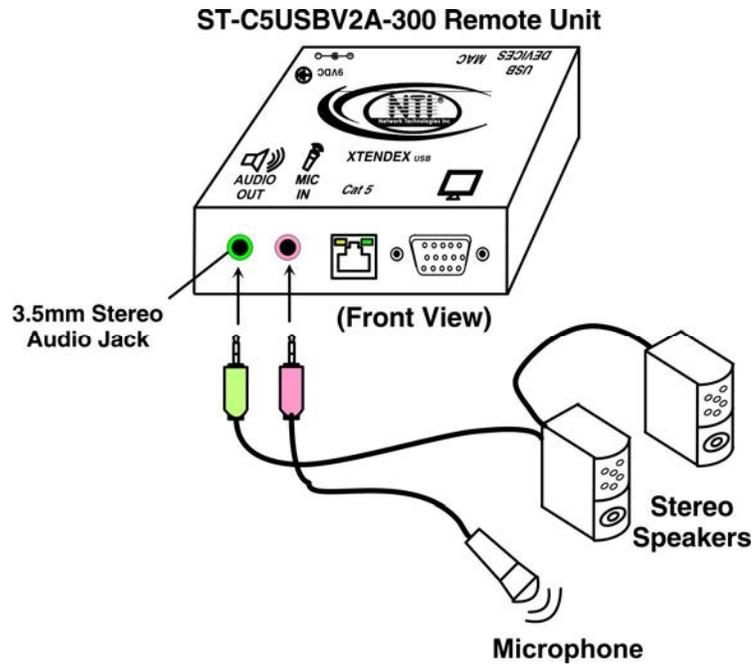

Figure 7- Connect remote self-powered speakers and microphone to Remote Unit
4. If the Remote Unit has audio support (ST-C5USBVA-300) , connect the cable from the remote self-powered stereo speakers to the 3.5mm stereo audio “AUDIO OUT” jack on the Remote Unit. (See Figure 7)